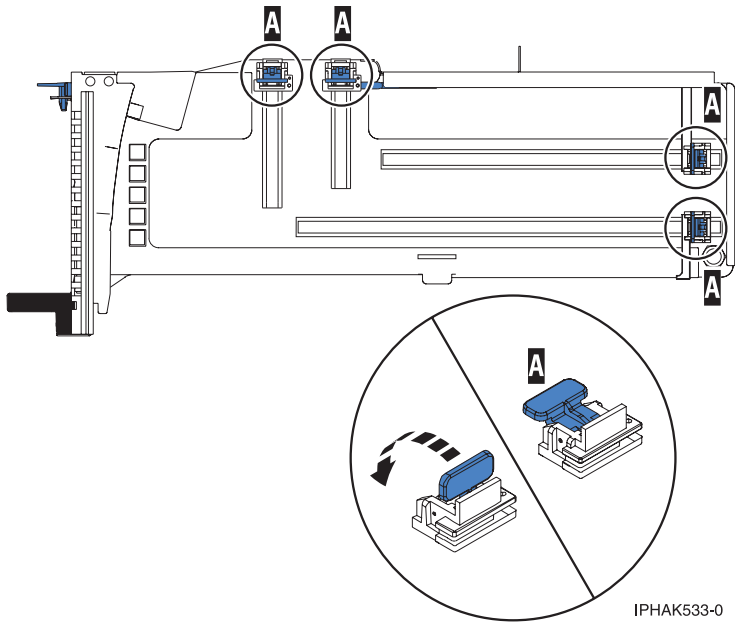

Figure 39. Adapter retainers
- b. Ensure that all of the adapter retainers (A) have been pushed out to the edges of the cassette to allow the placement of the adapter. See Figure 39 on page 52.